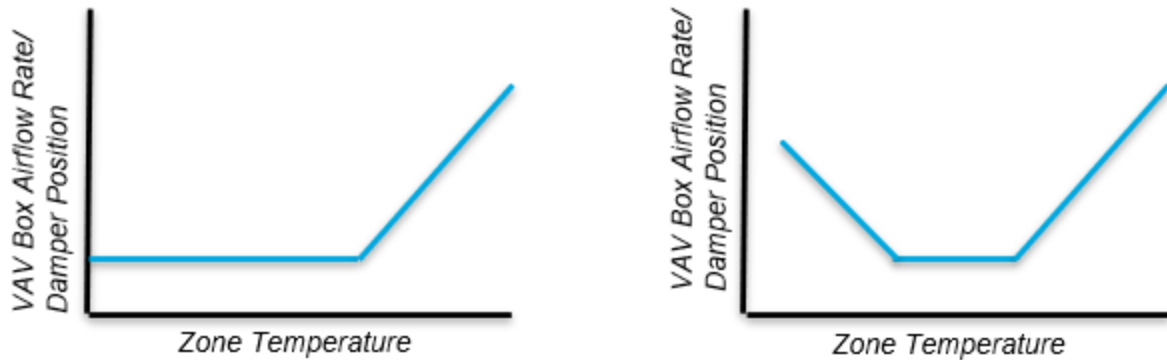

Figure 3. VAV box airflow control strategies; single maximum on the left, dual maximum on the right.
- Can be a useful choice if that is the case, but you need to make sure the VAV box airflow response does not increase zone airflow based on heating demand (above a minimum for satisfied boxes). The VAV airflow response to zone temperature needs to look like the plot below on the left, not the right (see Figure 3).